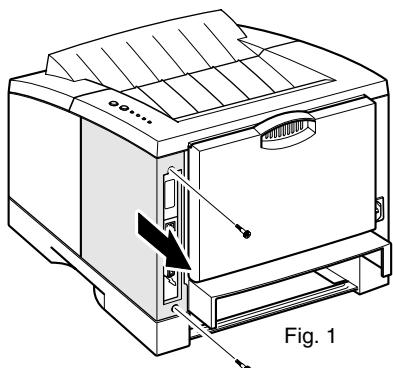

Fig. 1
3. Remove six screws from the Base and disconnect the size board harness connector (Fig 1).
4. Remove the Cover (Fig 1).